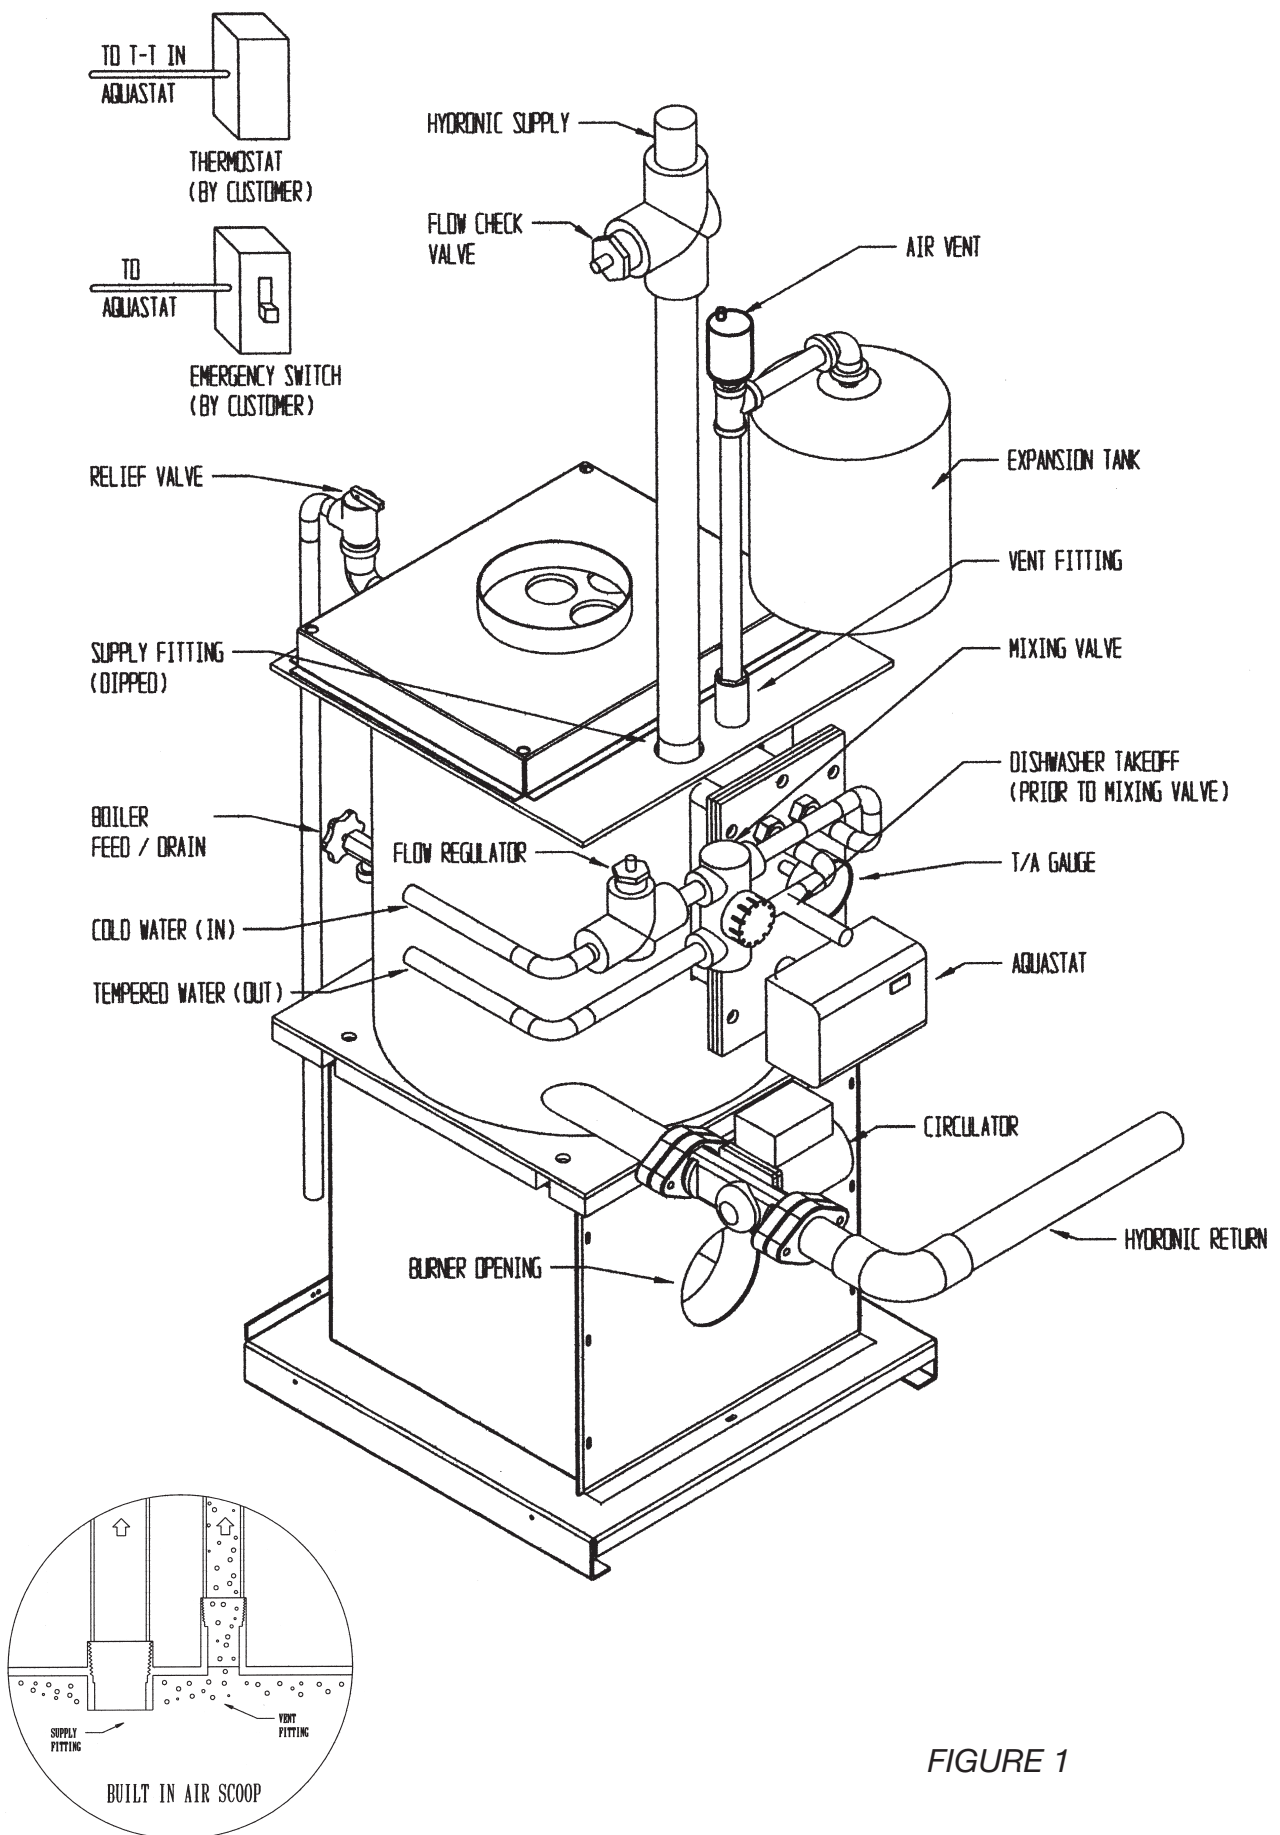

FIGURE 1
- 2) For location of piping refer to the installation drawing in Figure 1. The burner, aquastat and circulator are wired at the factory. For power and thermostat (not supplied) wiring connections see the control manuals provided along with this manual. For piping and wiring of other system components see the manufacturers installation manuals.
- 3) The tankless water heater may be piped as shown in Figure 1. A mixing valve, not supplied, must be used to reduce the water temperature at kitchen or bathroom taps. High temperature water for a dishwasher may be obtained by piping as shown in
Figure 1. The nuts that secure the tankless coil flange should be tightened before the boiler is filled with water, after initial firing and once a year during the annual maintenance. DETERIORATION DUE TO COIL GASKET LEAKS WILL VOID THE WARRANTY.